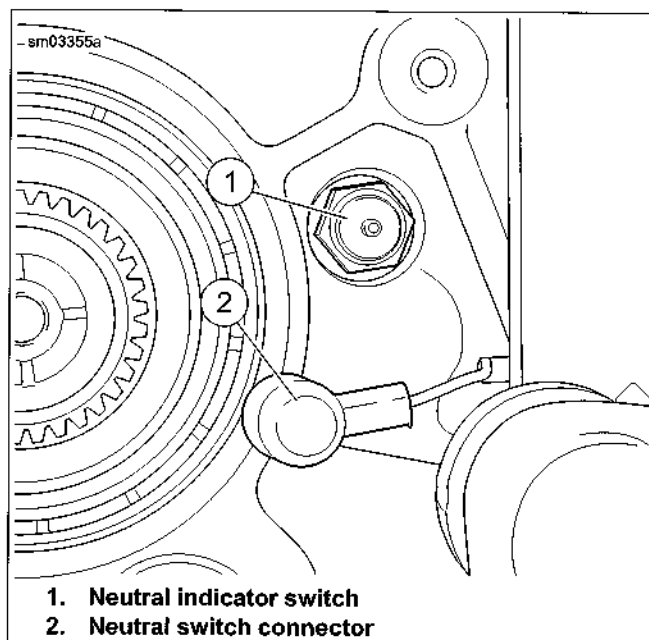

Figure 5-23. Neutral Switch and Connector
8. Verify transmission is in NEUTRAL. See Figure 5-23. Unplug neutral switch connector [131] (2) by pulling connector straight off neutral switch (1). Remove neutral switch and flat washer.